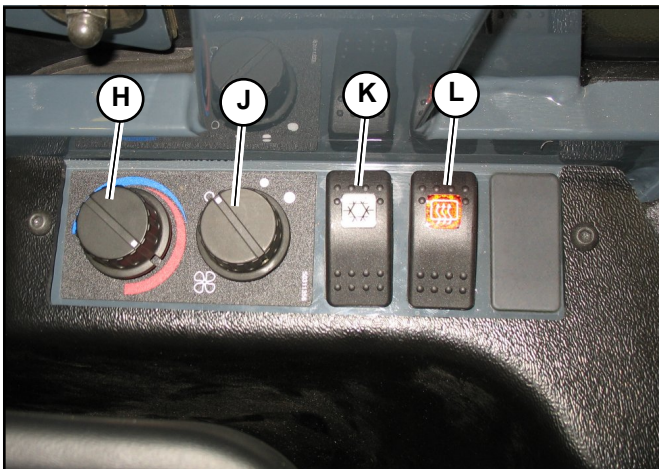

Fig. 50 – Heat/Air Conditioning Controls
- Fan speed control knob (J, Fig. 50): Controls the fan speed and turns the heater and/or air conditioner systems on or off.